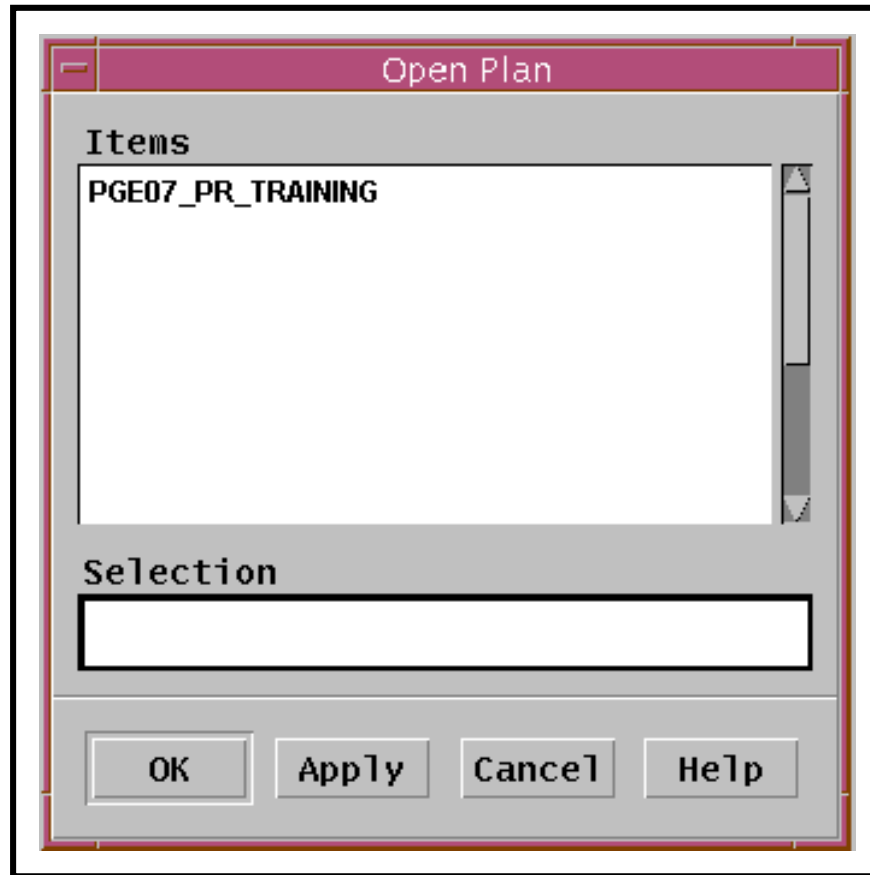

Figure 35. Open Plan Window
- The **Open Plan** window (Figure 35) is displayed.